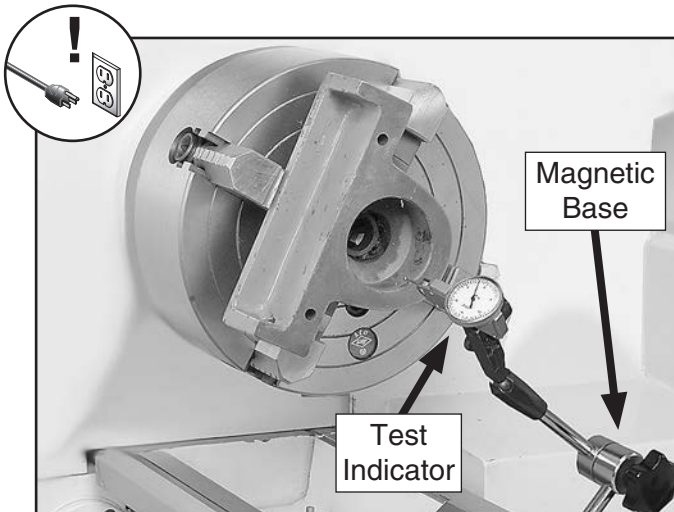

Figure 23. Example of using a test indicator to precisely align a non-concentric workpiece.
- Make fine adjustments to the workpiece position by using a test indicator mounted on a magnetic base and adjusting the jaws until the workpiece is precisely aligned for your operation (see **Figure 23** for an example).